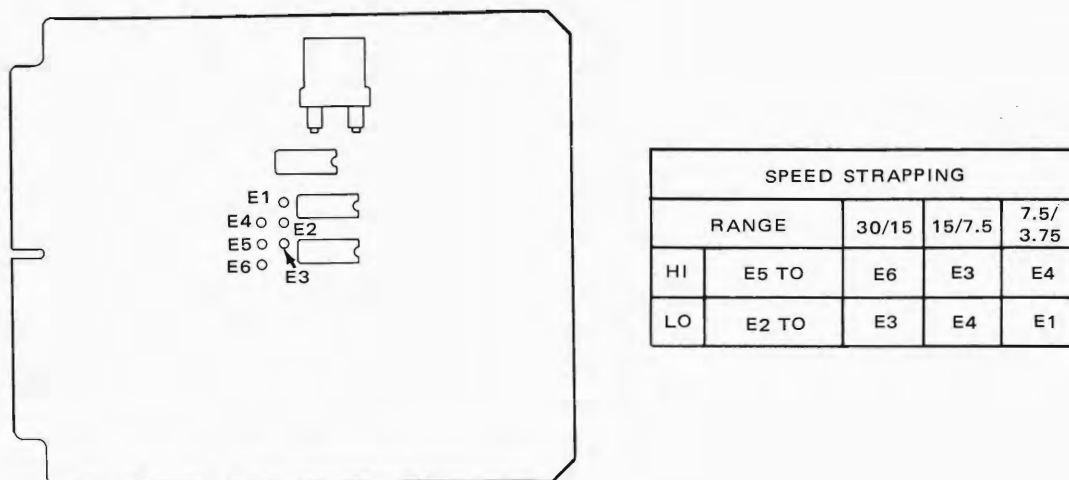

Figure 3-2. Tape Speed Pin Strapping
2. Remove the servo printed wiring assembly (Figure 3-2) from the servo chassis (Figure 3-3).
3. Connect a jumper from the terminal associated with the low position of the SPEED switch, designated E2, to the terminal associated with the desired low tape speed (E3 or E4). Refer to Figure 3-2.